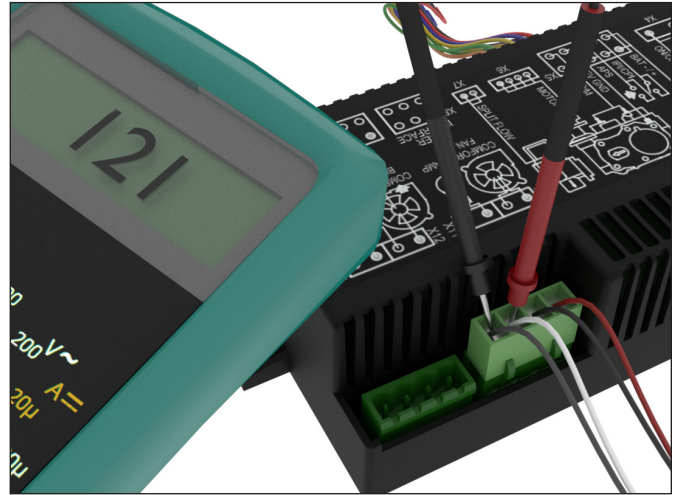

Figure 14: Voltage Test on Lights
2. **CAREFUL DANGER OF SHOCK.** Place probes on two yellow wires (see Figure 14).